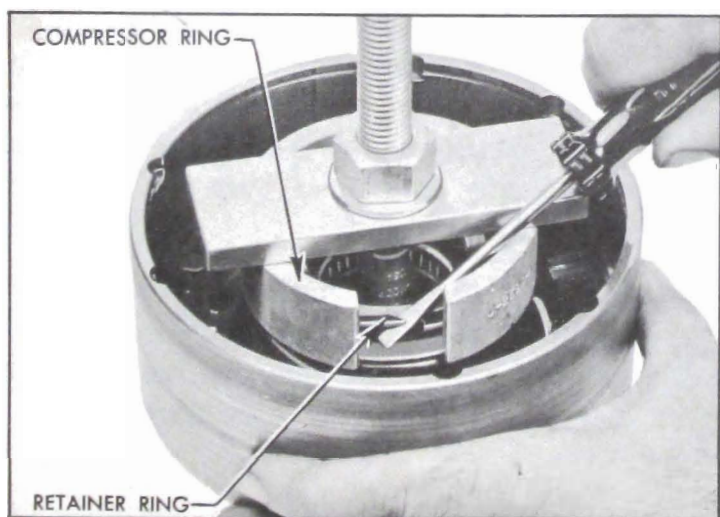

Figure 5-73—Using Clutch Spring Compressor J 2590
in assembled drum, placing the slot in compressor ring over the ends of spring seat retaining ring. Compress clutch spring sufficiently to remove the retaining ring. See figure 5-73.
2. Place clutch spring in piston and place spring seat and seat retaining ring on spring. Install Clutch Spring Compressor J 2590 (fig. 5-73) and compress spring until the retaining ring can be snapped into the groove in hub of drum, then remove the spring compressor.